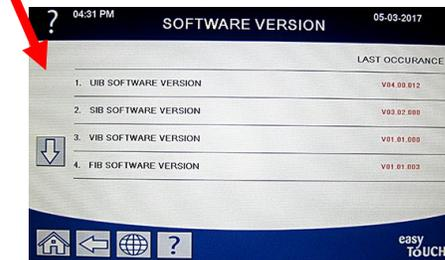

Figure 11
- Press the down arrow button **TWO** (2) times (see Figure 11).